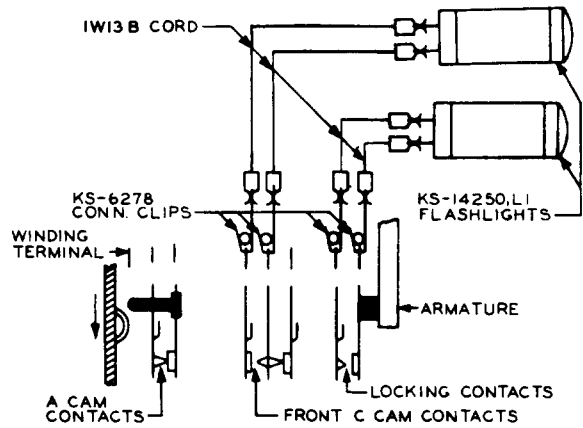

Fig. 21 - Connections for Checking Maximum Initial Interval
(3) Initial Registration - Maximum Timing Interval: Connect the flashlights to the proper spring terminals at the rear of the timer, as shown in Fig. 21. Neither flashlight should light. Operate the timer by connecting ground to the right winding terminal connection at the top of the timer. Both flashlights should light and timing with the KS-3008 stop watch should begin at once. After a short interval, the front "C" cam contacts will open. After a revolution of the timer gear the front "C" cam contacts will again close, at which time cease timing.